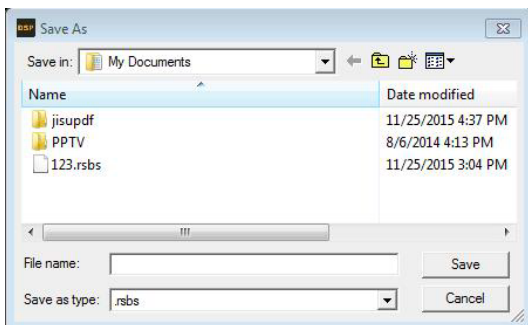

Figure 3.4.5
Step 2: Click "Save as PC Presets File " will bring up the file after item Save As dialog window (Figure 3.4.5).